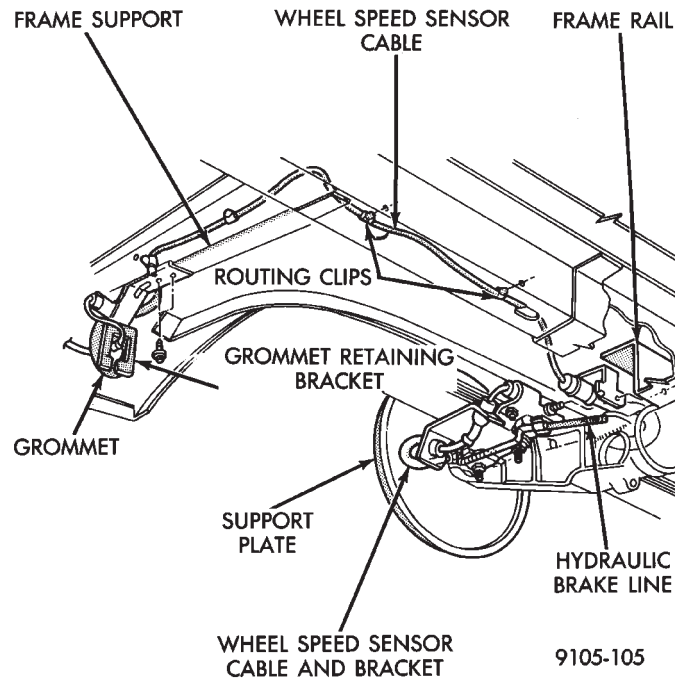
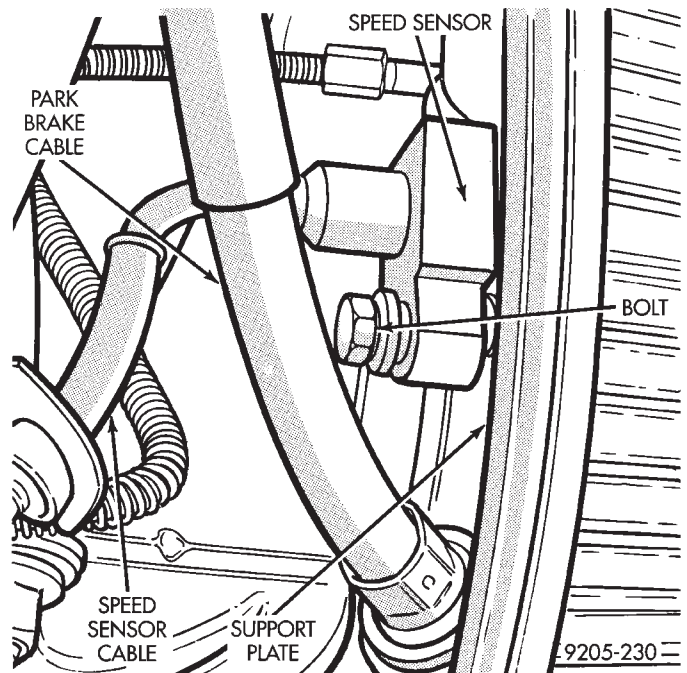

Fig. 7 Rear Wheel Speed Sensor Routing FWD
Fig. 8 Rear Speed Sensor F.W.D.
(1) Raise vehicle and remove rear wheel and tire assembly.
(2) Remove rear speed sensor wiring grommet retaining bracket. Remove grommet from underbody and pull harness through hole in underbody. (Fig. 7) **When removing grommet from underbody, do not pull**
(3) Unplug speed sensor cable connector, from vehicle wiring harness.
(4) Remove the 4 arrow head clips which route the speed sensor wiring along the underbody (Fig. 7).
(5) Remove the wiring to frame rail attaching bracket (Fig. 7).
(6) Loosen and remove the rear axle U-bolt nuts, which retain the rear speed sensor cable assembly mounting bracket. Remove the bracket from the vehicle.
(7) Remove speed sensor head to rear brake support plate, attaching bolt (Fig. 8).
(1) Position the rear speed sensor cable and bracket assembly on the rear axle U-bolt (Fig. 7). Install the rear axle U-bolt nuts and tighten to 88 N•m (65 ft. lbs.) torque.
(2) Coat the speed sensor head with High Temperature Multi-Purpose E.P. Grease. Install the speed sensor head into rear brake support plate. On the driver side the speed sensor wire is routed between the brake tube and the wheel brake. Torque the speed sensor to rear brake support plate attaching bolt (Fig. 8) to 7 N•m (60 in.lbs.)
(3) Bend the speed sensor cable assembly, rubber coated section toward the front of the vehicle. Position the anti-rotation tab of the sensor assembly frame rail bracket into its respective hole. Install the screw that attaches the frame rail bracket to the frame and torque to 4 N•m (35 in. lbs.)
(5) Position the rear sensor assembly grommet retaining bracket back on the underbody, (Fig. 7) making sure the bracket does not pinch the sensor wiring. Install the 2 bracket mounting screws and torque to 4 N•m (35 in.lbs.)
(6) Route the speed sensor wiring along the vehicle frame rail (Fig. 7) and install the 4 arrow head clips.
(7) Install the rear wheel assembly and torque the wheel stud nuts to 129 N•m (95 ft.lbs.)